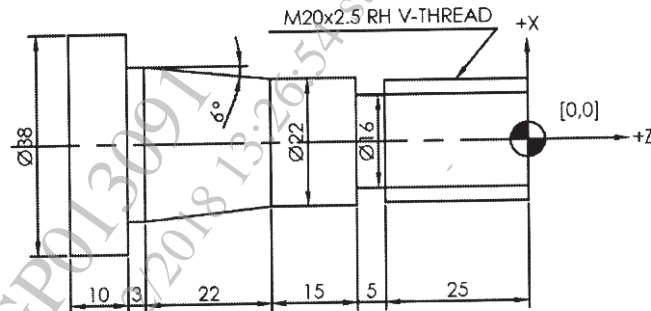

Figure 2:
- Q5)** a) Write CNC program using G and M codes with suitable CANNED CYCLES to turn the mechanical component shown in figure 2 from bar stock of  $\phi$  38 mm. Assume suitable cutting data. [12]